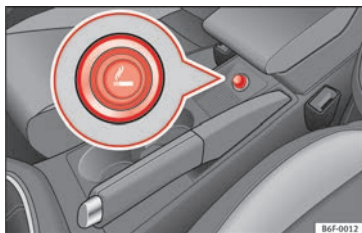

Fig. 161 Lighter.
- Press on the cigarette lighter » **Fig. 161** to activate it » **△**.